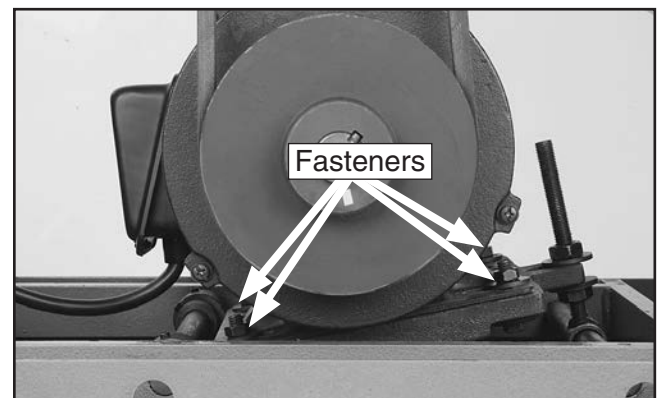

Figure 71. Motor mount fasteners.
4. Loosen the motor mount fasteners shown in **Figure 71**.